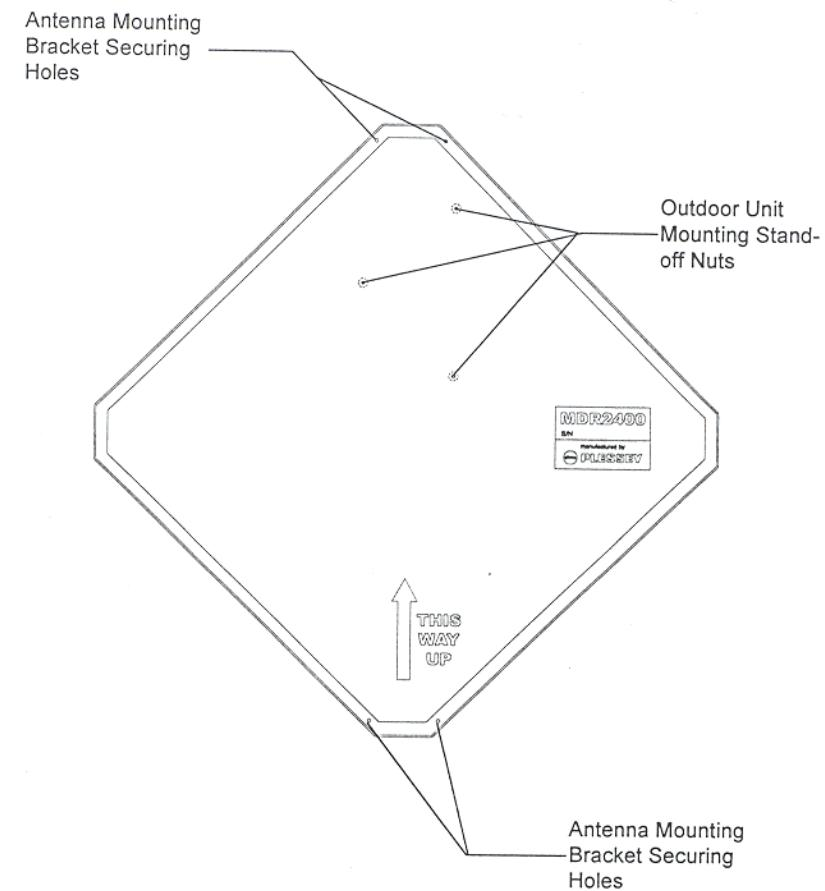
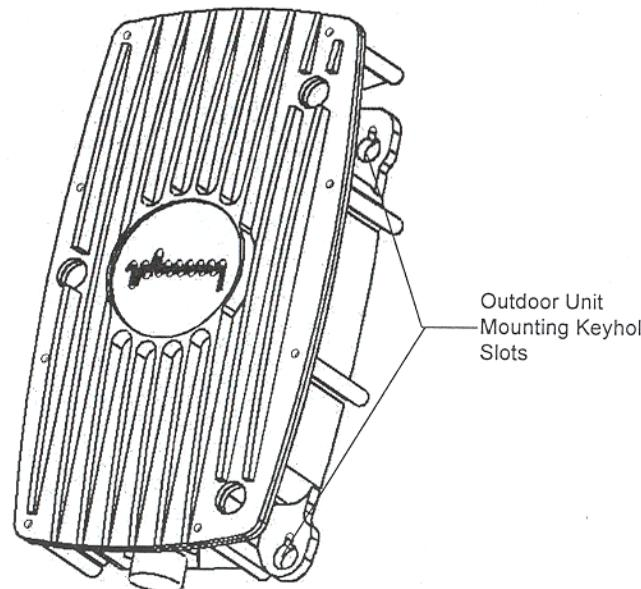

Figure 6. μLink Antenna.
Figure 7. μLink Outdoor Unit.
1.	Secure the C-shaped mounting bracket to the Antenna using the two securing screws and bolts (see Figure 6).
Follow these steps to mount the OU onto the Antenna. See Figure 6 and Figure 7.
1.	Loosen the three OU securing stand-off nuts located on the Antenna (see Figure 6).
2.	Position the OU on the stand-off nuts through the three (3) key hole slots on the OU (see Figure 7).